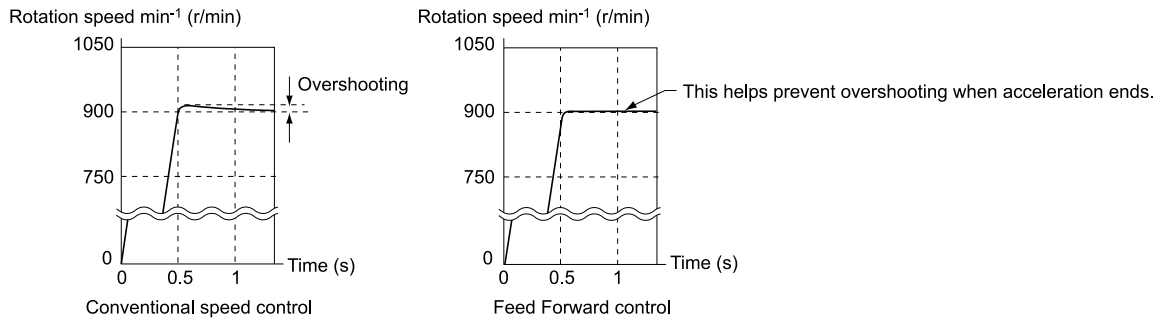
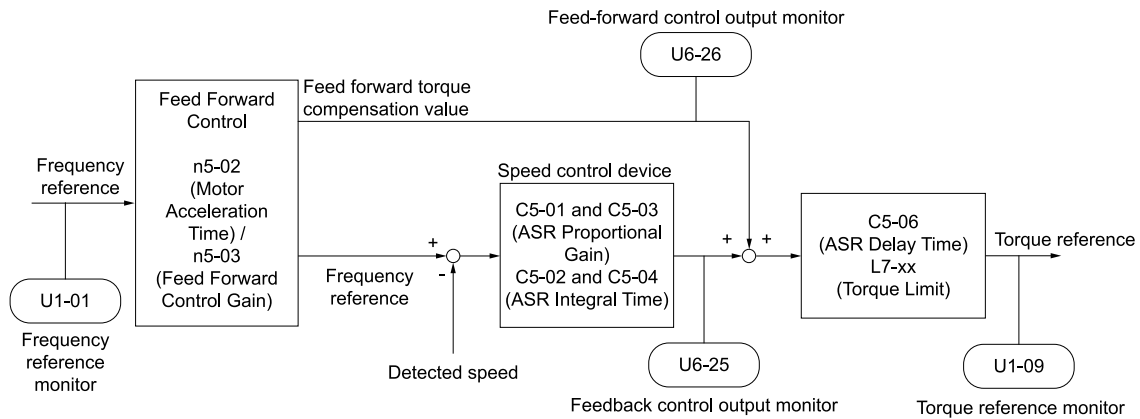

Figure 12.141 Suppress Overshooting with Feed Forward Control
Figure 12.142 Configure Feed Forward Control
Increase the values set in $C5-01$ [*ASR PGain 1*] and $C5-03$ [*ASR PGain 2*] to apply feed forward control to machines that have low rigidity and are possible to have hunting and vibration or to machines that have a large quantity of inertia. When you use this function in CLV control, it also helps prevent overshoot. Refer to Figure 12.141 for more information. Refer to Figure 12.142 for more information about parameters related to feed forward control.
- If you cannot do Inertia Tuning, refer to Figure 12.142 and set the parameters related to feed forward control individually.